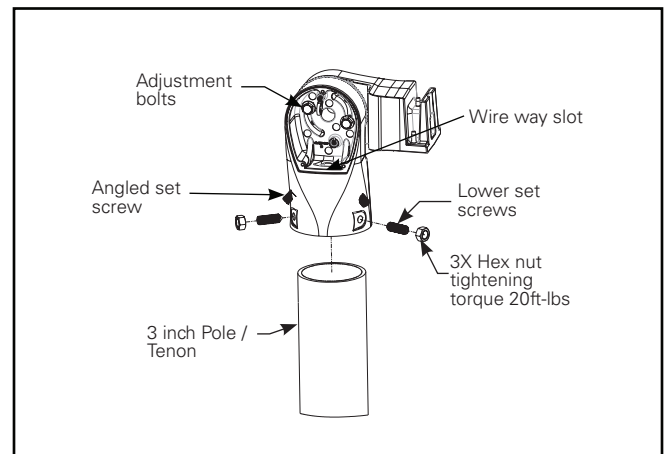

Figure 6.
3. Lower arm assembly onto 3 inch pole or vertical tenon while feeding input power supply wires through the wire way slot in the arm (Figure 6.).
- Once arm assembly is in position, hand-tighten the three angled set screws to secure in place. Hand-tighten the lower three set screws, then tighten the upper angled set screws to 20 ft-lbs (27 N-m). Install three hex nuts to the lower set screws and tighten both the set screws and nuts to 20 ft-lbs (27 N-m). (Figure 6.)